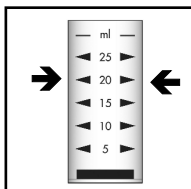

Figure 1
1. Fill the sample cup to the 20 mL mark with your sample (fig. 1).